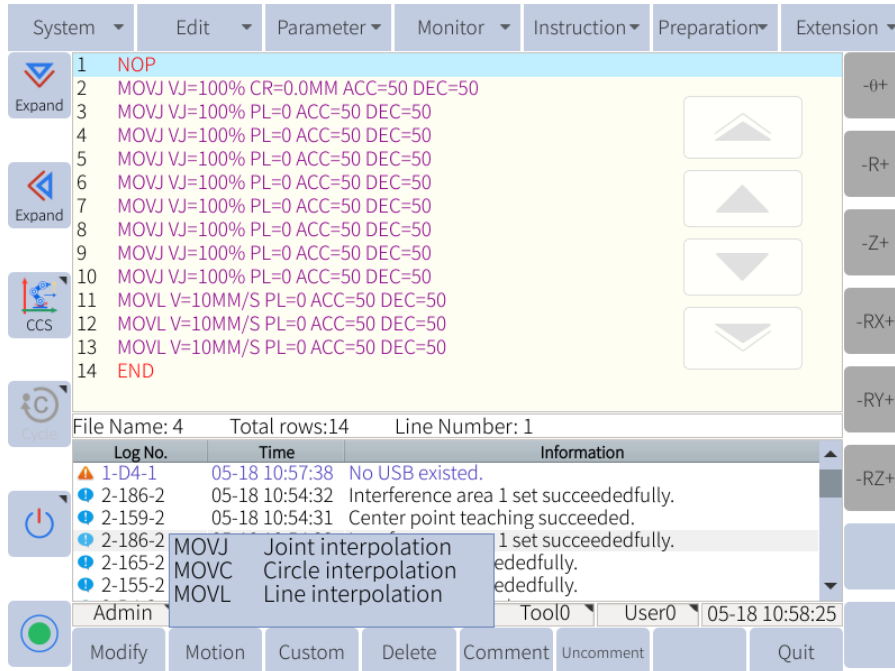

Figure 4-8 : Selecting the move instruction
4. Click "Motion" in the submenu bar or select **Instruction -> Move Instruction**, and select the desired move method on the drop down menu, as shown in **Figure 4-8**.